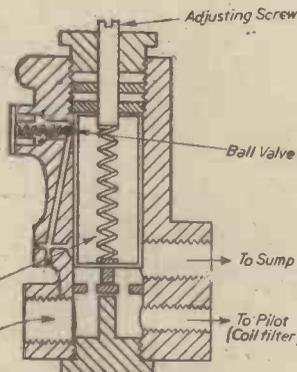

Fig. 31.—Section of oil pressure regulator.
**Oil Pressure Regulator (Fig. 31).**—The purpose of this component is to regulate the pressure in the system to a constant pressure. It consists of an alloy casting, leading to the pump, oil filter and sump. Down the centre of the regulator is a hollow spring-loaded plunger which covers the outlet to the sump. As the outlet to the oil filter is smaller than the inlet union, pressure is built up, which, when over a predetermined figure, lifts the plunger off its seating and allows the excess oil to flow back to the sump.